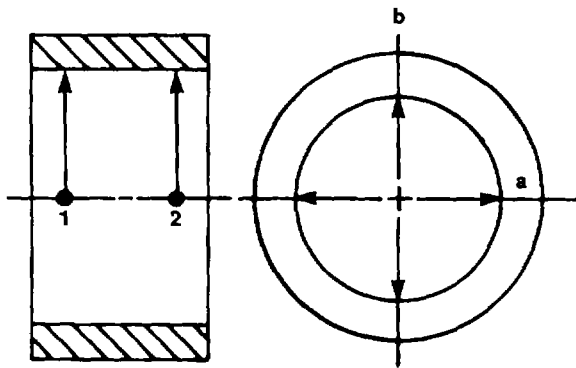

Figure 5-60. Measuring Main Bearing Bore
3. Measure each main bearing bore at points 1 and 2 plane a, then in the same manner in plane b offset by 90 degrees, in order to determine any contraction, out-of-roundness, or conicity (figure 5-60).
7. Gauge each bore at points 1 and 2 in the vertical and horizontal positions a and b (figures 5-60 and 5-61).